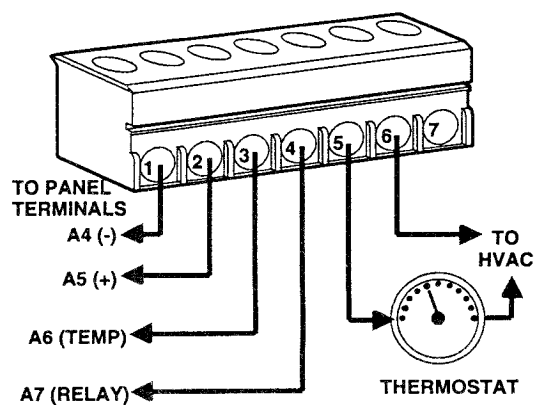

Figure 5. ESM Wiring Connections to CareTaker
- 4) Connect wires as shown in Figure 5. Table 3 describes the wiring connections shown in Figure 5.